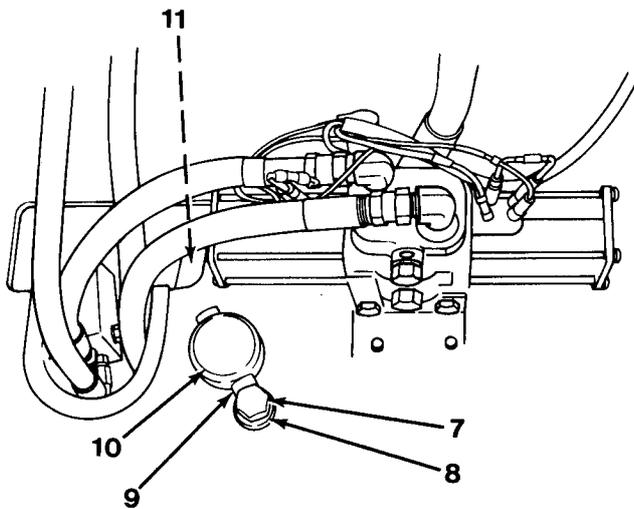

Figure 13-3
8. Remove cap screw (7), lockwasher (8) and rod end (9, Figure 13-3).
9. Using a brass drift pin, remove pin (10) by driving pin through frame, inside cab.
- Using hoist and sling, install outrigger cylinder assembly (11, Figure 13-3).
- Install pin (10) through frame and outrigger cylinder assembly (11).
- Install rod end (9), lockwasher (8) and cap-screw (7).